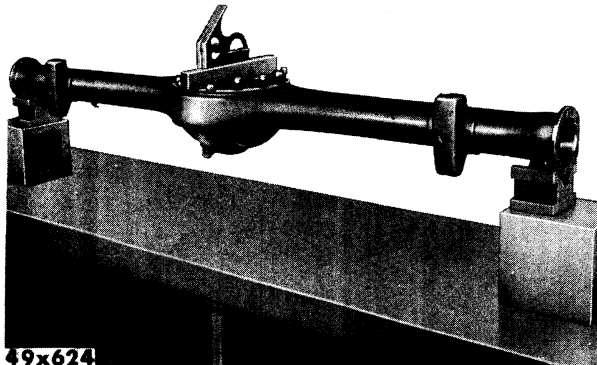

Fig. 49—Leveling Housing for Checking Alignment
- (1) Place axle housing in "V" blocks—on surface plate.
- (2) Turn housing until machined surface for carrier mounting is facing UP and is perfectly level, as shown in Figure 49.